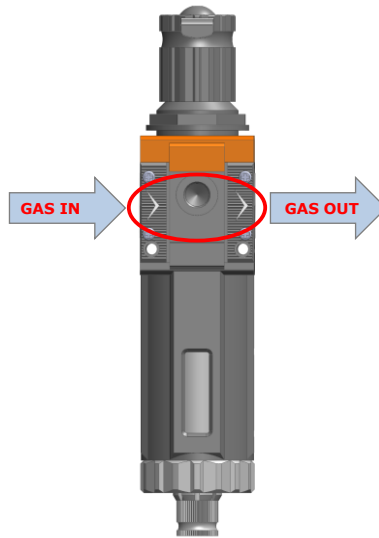

Figure 6. Input and Output gas ports. See symbol on the rear of Pressure Gauge
1. Install the **pressure Gauge for the CO2 and N2 lines** between the CO2/N2 tanks and CO2-O2-UNIT-BL [0-10; 1-18]. Follow the arrow on the rear of the Pressure Gauge for the correct Gas In-Out (see Figure 6).